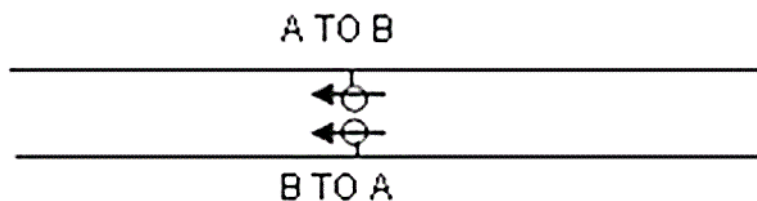

Figure 5 – Signalling plan symbol for a Uni directional model
- Uni-directional treadles are often associated with level crossings and are indicated on the signalling plan with an arrow. See Figure 5.